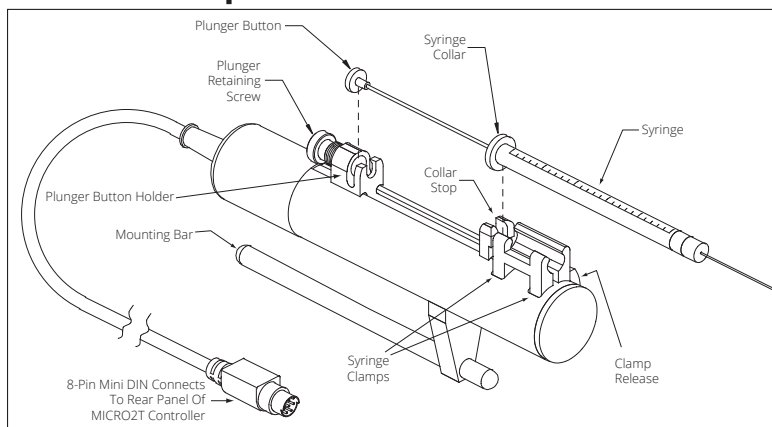
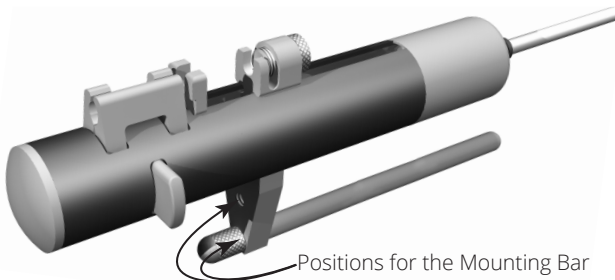

Fig. 9—The parts of the pump are labeled
Fig. 10—Unscrew the mounting rod to reposition it.
The **UMP3** can be mounted directly onto a stereotaxic frame or a micromanipulator, using the mounting bar (Fig. 9). The mounting bar may be repositioned, if necessary. There are two positions available on the **UMP3** body (Fig. 10).
2. Then, place the syringe collar into the collar stop (Fig. 9).